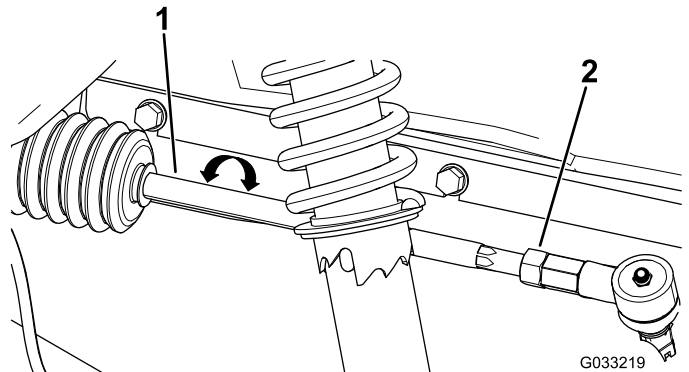

Figure 13
2. If the measurement does not fall within 0 to 6 mm (0 to 1/4 inch), loosen the jam nuts at the outer end of the tie rods (Figure 13).